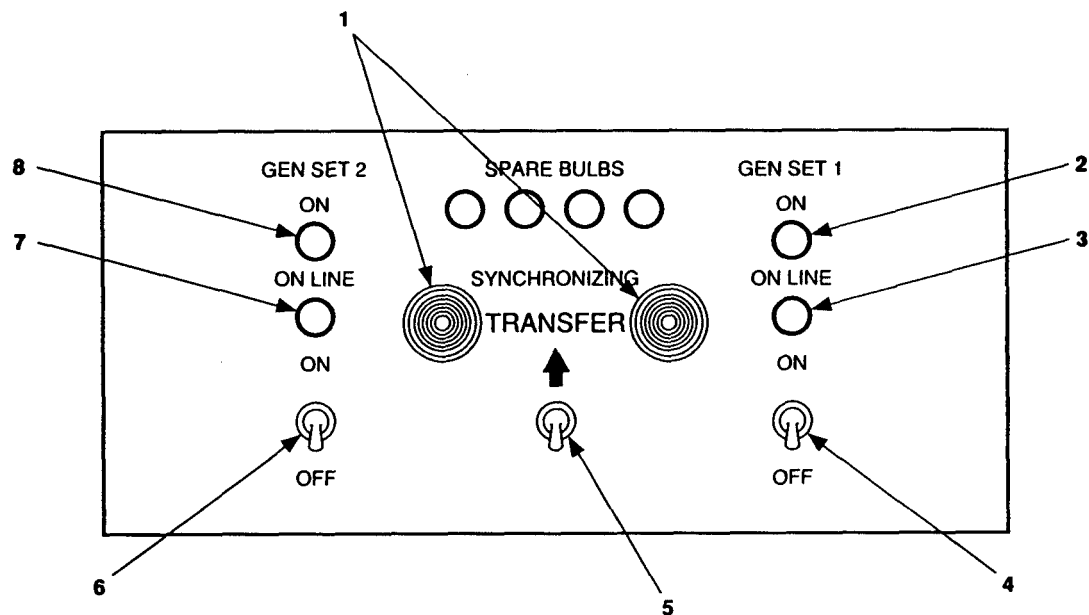

Figure 2-10. Power Plant Operation.
- b. Check that both ON/OFF switches (4 and 6, figure 2-10) on switch box are at center position.
- c. Check that TRANSFER switch (5) on switch box is at bottom position.
- (1) Refer to table 2-2 and perform the "Before" PMCS.
- (2) Check that switch box ON/OFF switch (6 or 4) is at center position.
- (3) Check that switch box TRANSFER switch (5) is at bottom position.
- (4) Refer to TM 9-6115-641-10 and:
- (5) Check switch box controls and indicators (figure 2-10) to ensure that:
- (6) Move switch box TRANSFER switch (5) in the direction of the arrow. All SYNCHRONIZING lights (1 and 9) should be going from bright to dark at the same time. If SYNCHRONIZING lights do not begin to function, report problem to next higher level of maintenance.
- (7) Refer to TM 9-6115-641-10 and:
- (8) When SYNCHRONIZING lights (1 and 9) are dark, hold the switch box ON/OFF switch (6 or 4) for the generator set that was just started to ON position until ON light remains on. Release the switch. The ON LINE light for the first generator set that was running should immediately go out.
- (9) Check switch box lights, as follows:
- a. Set the switch box ON/OFF switch (6 or 4, figure 2-10) for the generator set to be stopped to OFF position.